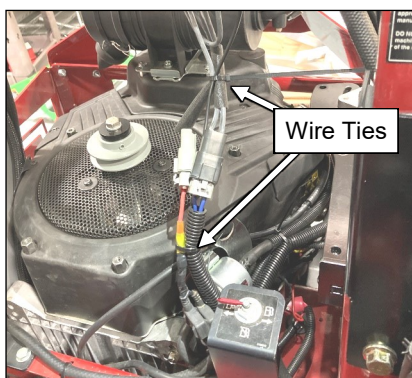

Fig. 6.11 (Secure regulator wires)
- 6.11 See fig. 6.11. Secure the wires for the Voltage regulator together, and to the fuel hoses near the fuel cutoff switch. Orient the fuse holders so that the fuses will be accessible once the covers are put on the engine.